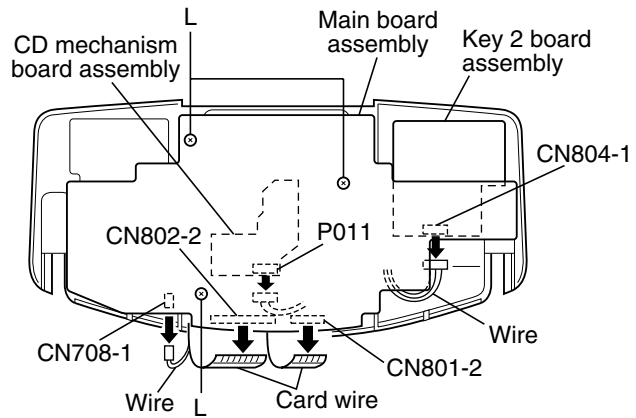

Fig.14
■ Removing the main board assembly (See Fig.14 to 16)
3. Disconnect the wire from the connector CN804-1 on the key 2 board assembly.